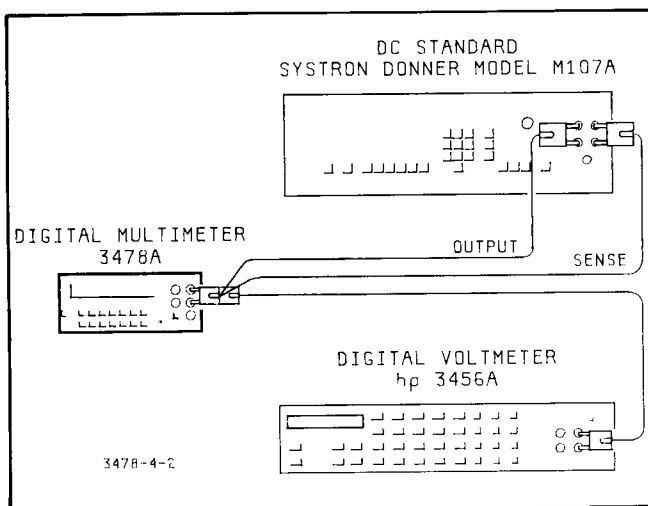

Figure 4-2. DC Volts Accuracy Test and Calibration
g. Connect the 3478A to the Digital Voltmeter and DC Volts Standard, as shown in Figure 4-2. Use the Digital Voltmeter as the standard and the DC Volts Standard as the power supply. An example on how the Digital Voltmeter and DC Volts Standard checks the 3478A accuracy on the multimeter's 3V Range, is as follows: